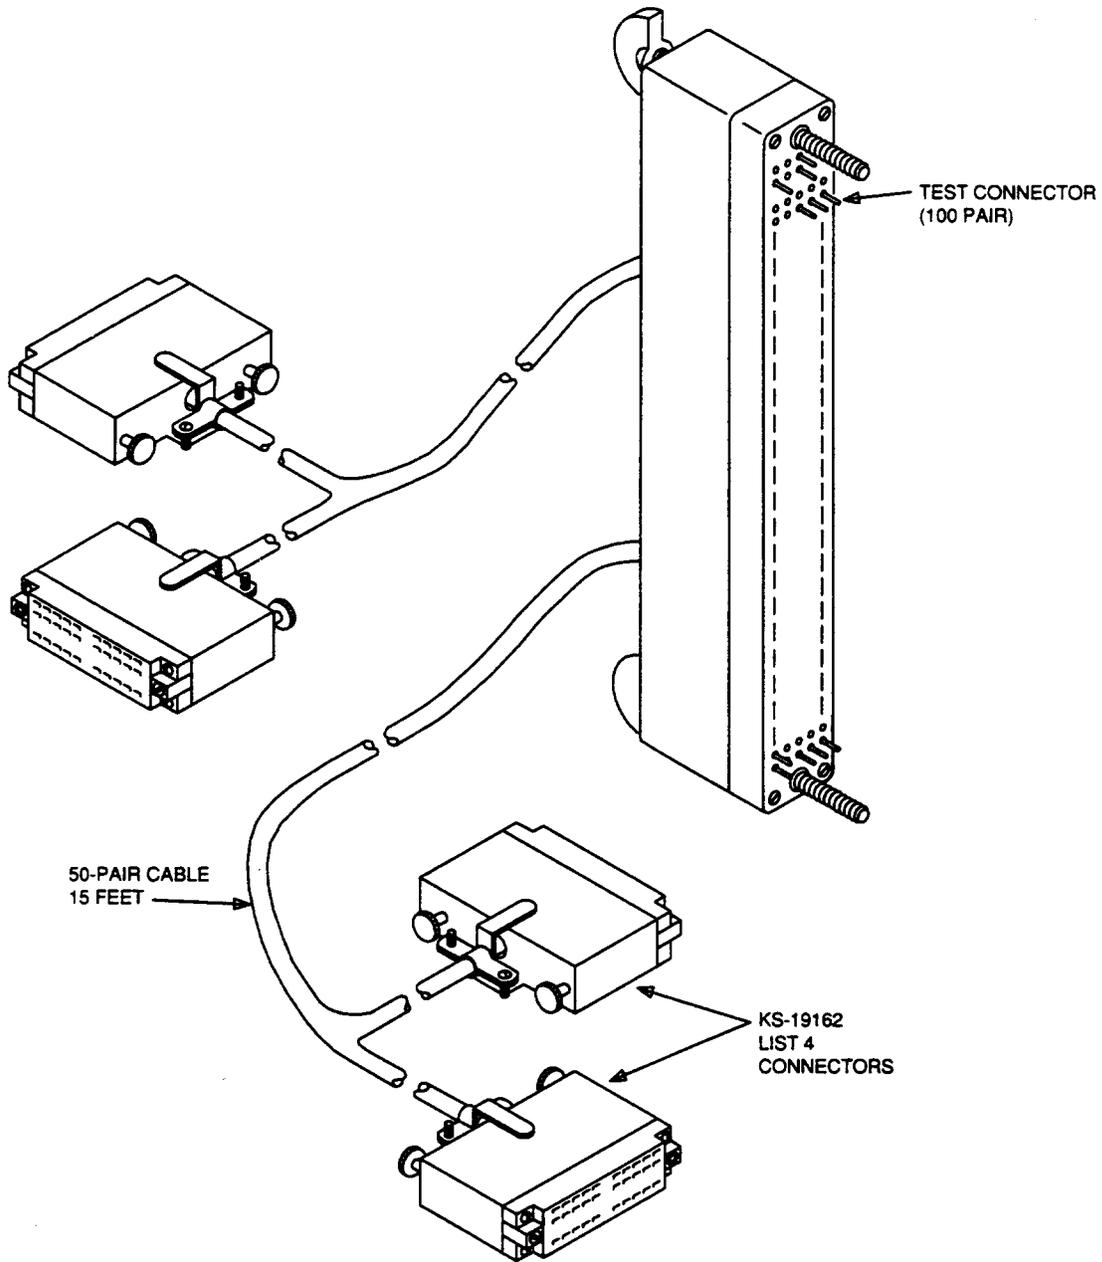

Figure 22. T Test Connector (AT-8987)
6.06 The T test connector (Figures 22 and 23) is a 100-pair test connector that is used for making multiple pair tests on the 310-type connectors.